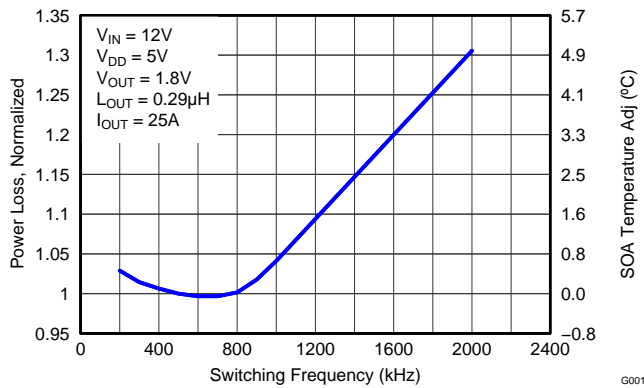

Figure 7. Normalized Power Loss vs Frequency
- Normalized Power Loss for switching frequency \approx 1.04 (Figure 7)
- SOA adjustment for switching frequency \approx 0.7 $^{\circ}$ C (Figure 7)